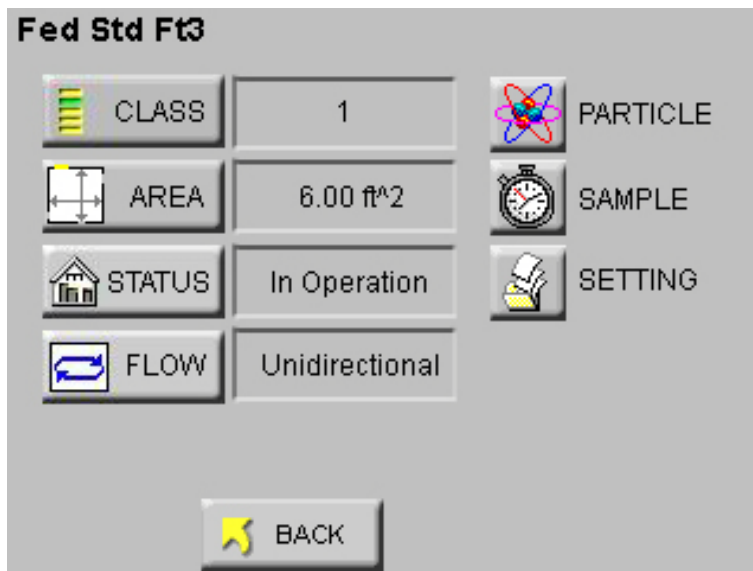

Figure 4-79 Setup Screen No LOC or SAVE Buttons
- When "REPORTS" are enabled, the "LOC" and "SAVE" buttons are displayed only when there are at least the minimum number of locations needed for the recipe area available. See Figure 4-79.